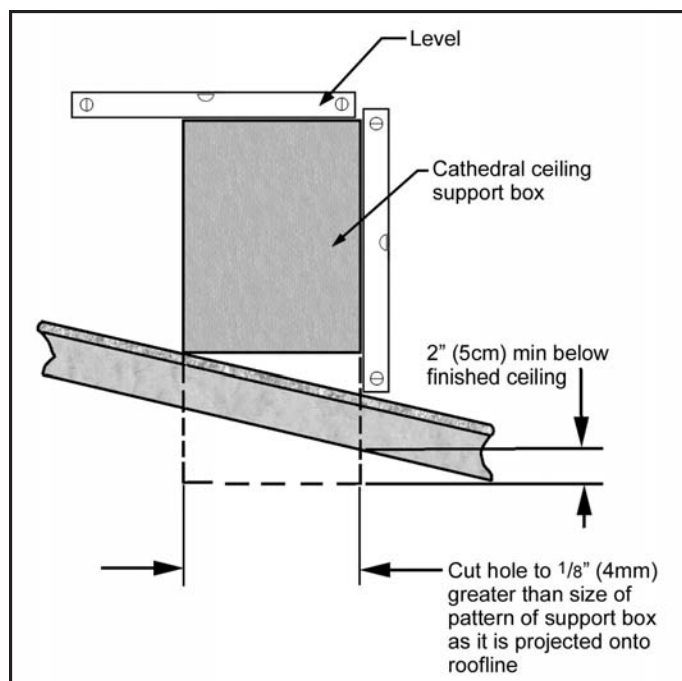

Figure 28: Cathedral Ceiling Support Box Leveling.
STEP 4. Lower the "Support Box" through the hole in the roof until the bottom of the "Support Box" protrudes at least 2 inches (5 cm) below the ceiling. Align the "Support Box" both vertically and horizontally with a level as shown in Figure 28. Temporarily tack the "Support Box" in the place through the inside walls and into the roof sheathing.